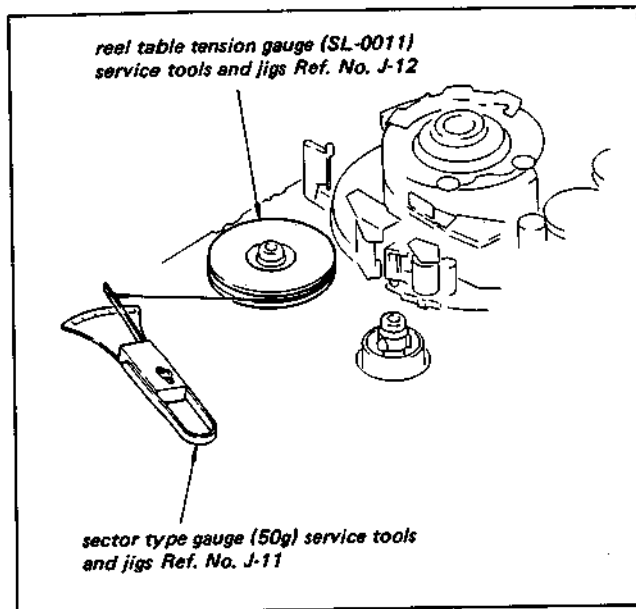

Fig. 3-33. How to check the soft brake
- 2) As shown in Fig. 3-33, set a tension gauge (SL-0011) on the S reel table.